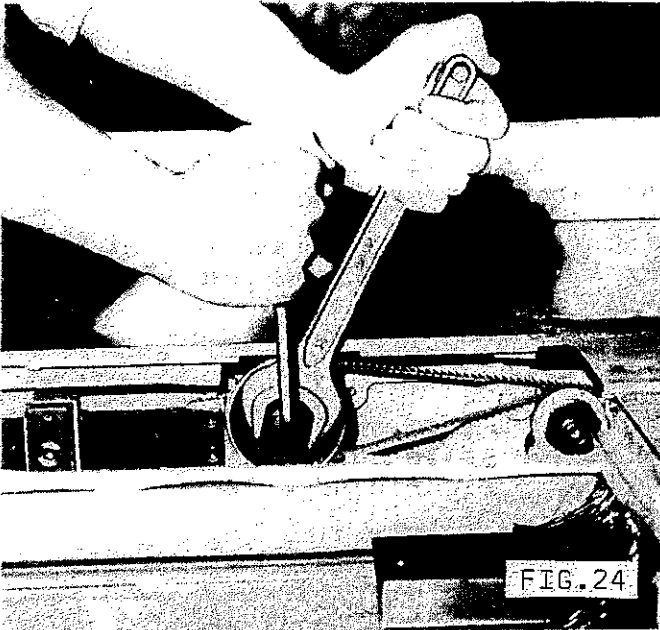

FIG. 24
- 5) Locate 8mm allen key (supplied) in main saw spindle as shown in FIG.24, then remove arbor nut (left hand thread) and front saw flange.